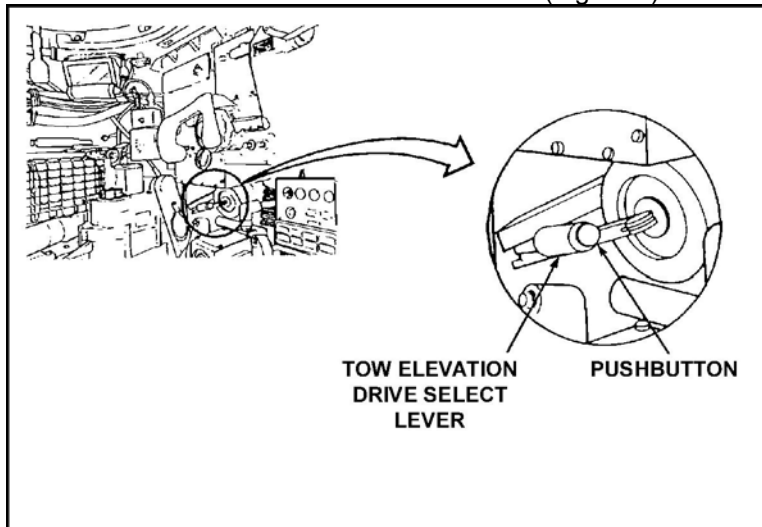

Figure 4. TOW elevation drive select lever.
- (1) Press and hold the push button.
- (2) Move the gun select lever to the right and release the push button.
- c. Move the TOW elevation drive select lever to MANUAL (Figure 4).